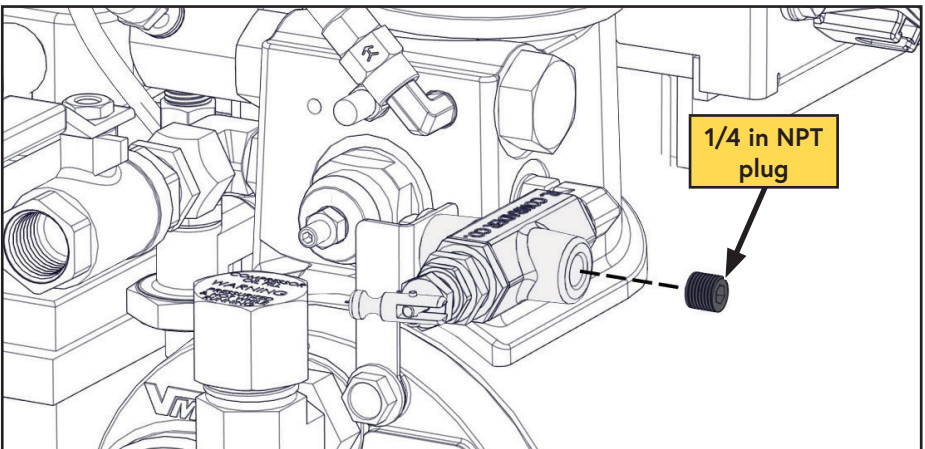

Figure 44 — Plug unloader valve
- ☐ Remove the push-to-connect fitting from the unloader valve and plug the valve using a 1/8 in NPT plug (Figure 44).
- ☐ Remove the 1/8 in NPT plug from the unloader valve and install the push-to-connect fitting (Figure 44).